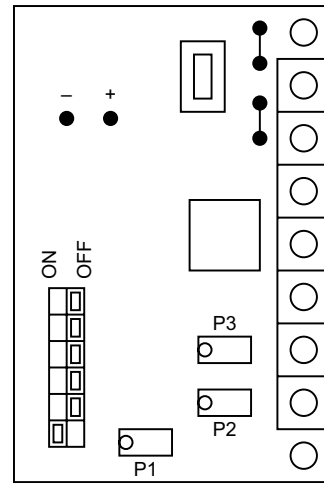

Figure 5
3. Locate the high-humidity circuit board (refer to Figure 5).
6. With a small slotted screwdriver, adjust P1 on the high-humidity circuit board (Figure 5) clockwise and counter-clockwise. Find the adjustment point where the contacts open and close. Leave adjustment where the contacts just close.